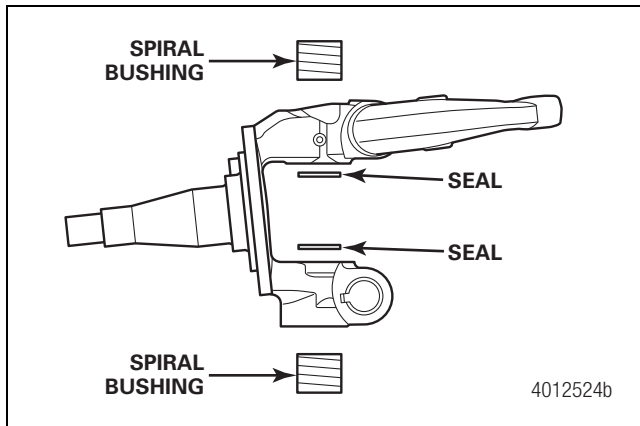

Figure 2
- Using the Meritor bushing driver tool specifically designed for the kit, drive both bushings into the knuckle. Figure 2.